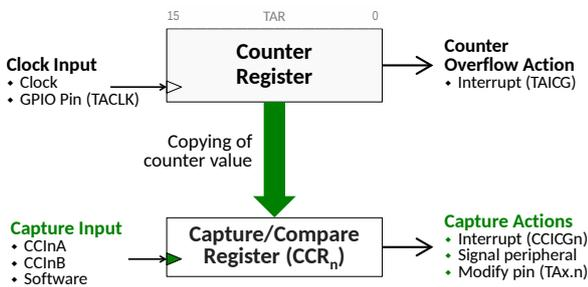

Figure 13: Input capture functionality of a timer.
- **Input capture:** As depicted in Figure 13, the counter value is copied to a separate register when an event at one of the CCR inputs occurs. The same event that causes the timer value to be captured can also trigger new timer events such as a timer interrupt, sending a signal to a peripheral or modifying a pin.